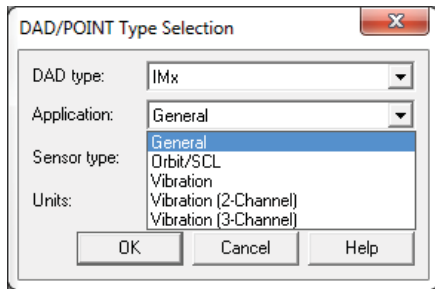

Fig. 2. Select the DAD type and application.
- 2 Select "IMx" as the **DAD type** and "General" for the **Application** (→ fig. 2).